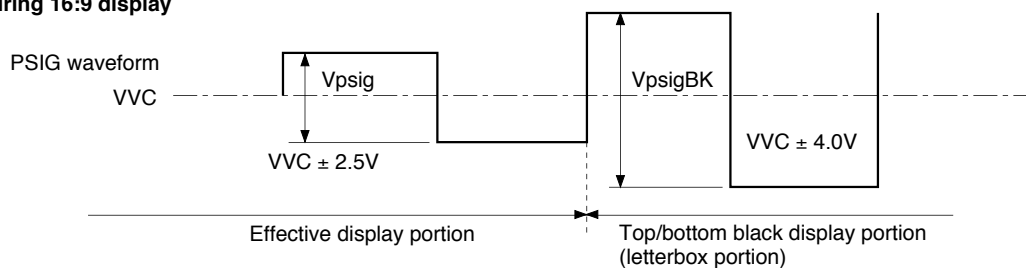

Fig. 2
- 2) During 16:9 display, input the same signal amplitude as in 1) above during the effective display portion, and input the black signal level VpsigBK during the top/bottom black input portion as shown in Fig. 2.